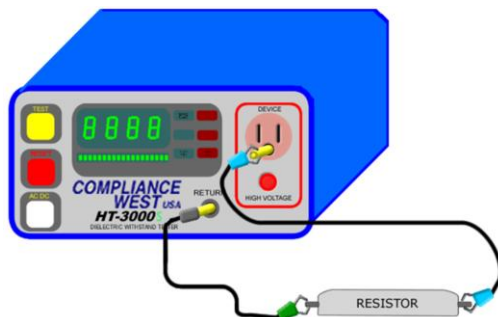

Figure 10. External Resistor Connected to the Ground Continuity Test Circuit.
11. Connect an external resistor on the range of 0.1Ω to 1.5Ω using the leads mention on steps 5 and 6. See Figure 10, or hook up to RETURN and GROUND CHECK using the supplied test leads for HT-4200S.
- For models with connect as it shown it in Figure 10.